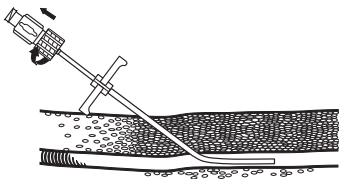

Fig. 2
11. Leaving the sheath in place, remove the dilator. (**Fig. 2**) **NOTE:** To prevent inadvertent air aspiration after removing wire guide and dilator, place thumb or finger over the cuffed proximal end of the sheath.